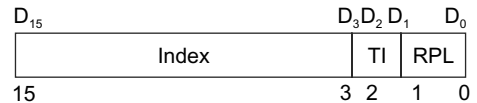

Fig. 11.26 Sector fields
In the protected mode of 80286, the selector has three fields such as *descriptor entry index*, *local or global descriptor table indicator (TI)*, and *selector privilege (RPL)* as shown in Fig. 11.26. The first two bits D_{15} – D_0 are called requested privilege level RPL field. The D_2 bit states the descriptor table type. The index D_{15} – D_3 bits are used to indicate descriptor base in the descriptor table. The function of the fields is given in Table 11.16.